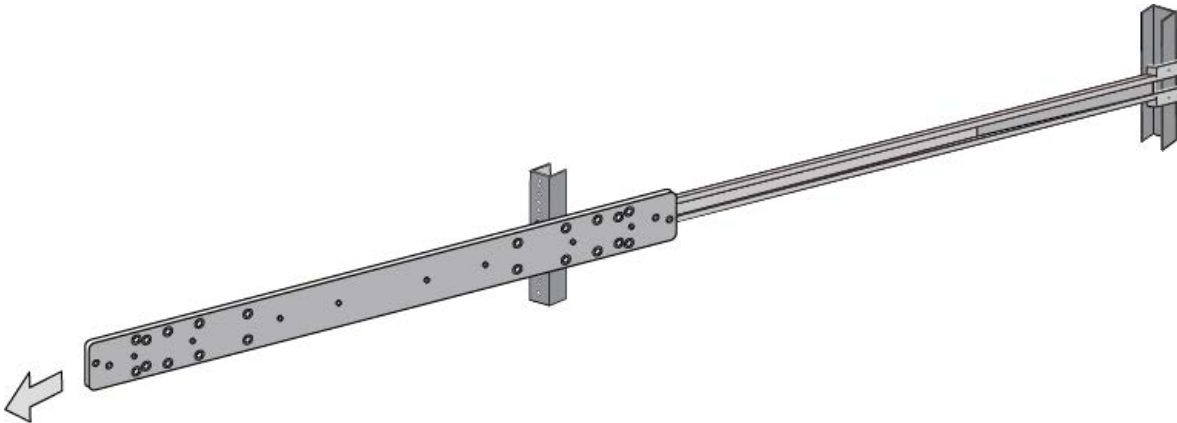

Figure 50. Removing the Inner Rail
- Remove the inner rail from the outer rail. Refer to Figure 50.